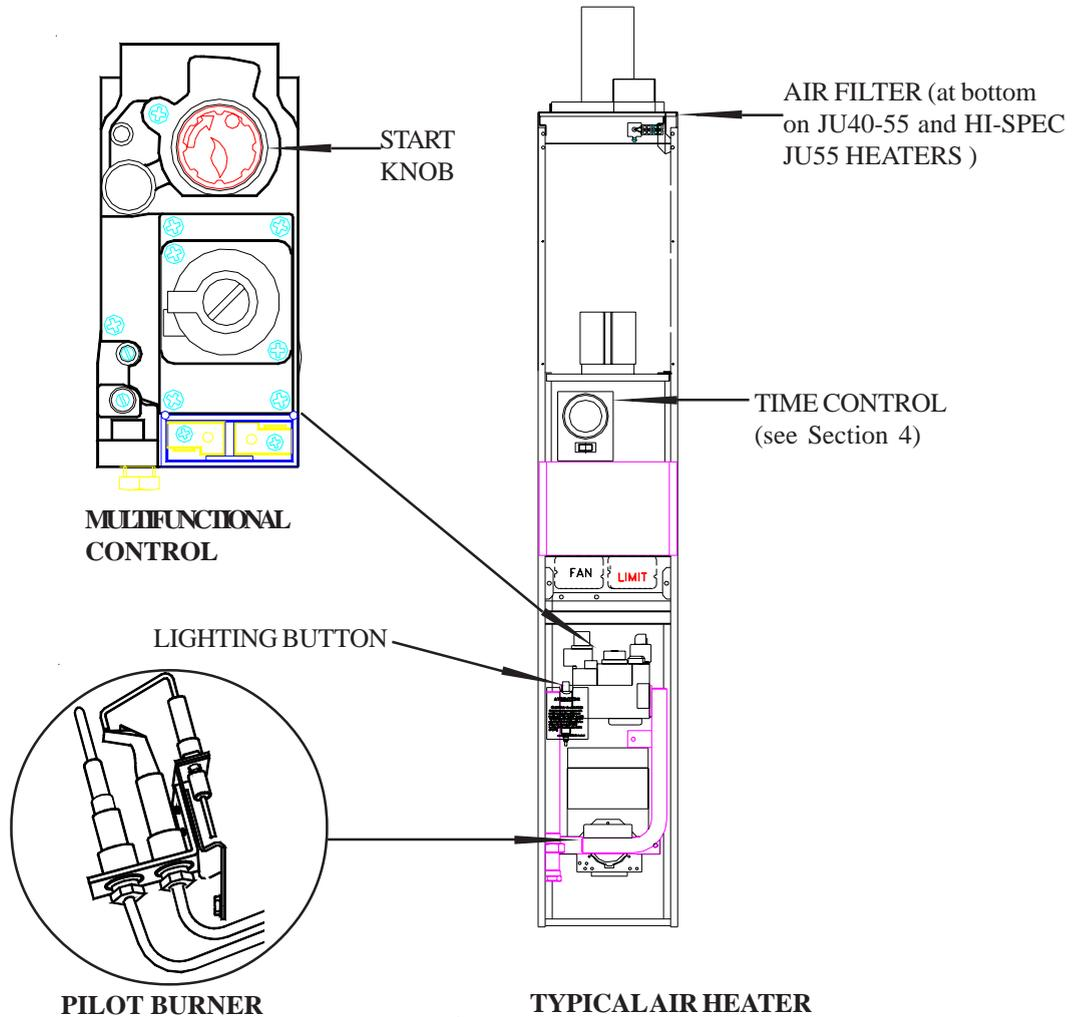

Fig.1
- 1.2 Referring to Fig. 1, identify the positions of the Multifunctional control START KNOB and the PILOT BURNER.